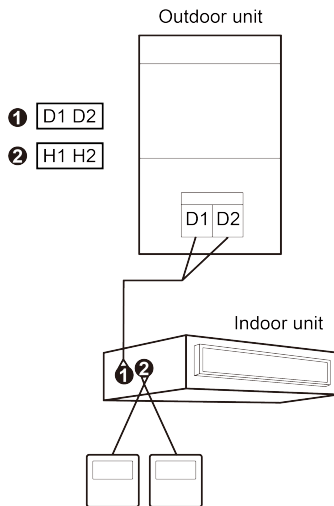

Fig. 5.4 Two wired controllers control one indoor unit
- (1) When one wired controller controls multiple indoor units simultaneously, the wired controller can connect to any one indoor unit, but the connected indoor unit must be the same series indoor unit. The total quantity of indoor unit controlled by wired controller can't exceed 16 sets, and the connected indoor unit must be within the same indoor unit's network. Wire controller must set quantity of group control indoor units. Please refer to 5.2.3 Parameter Setting.
- (2) When two wired controllers control one indoor unit, the addresses of those two wired controllers should be different. Please refer to 5.2.3 Parameter Setting.
- (3) When two wired controllers control multiple indoor units, wired controller can be connected to any one indoor unit, while the connected indoor unit should be the same series indoor unit. The addresses of those two wired controllers should be different. Please refer to 5.2.3 Parameter Setting. The total quantity of indoor unit controlled by wired controller can't be more than 16 sets and all connected indoor units must be within the same indoor unit network. Wire controller must set quantity of group control indoor units. Please refer to 5.2.3 Parameter Setting.
- (4) When one (or two) wired controller(s) control(s) multiple indoor units at the same time, the controlled indoor unit's setting should be the same.
- (5) Wiring of wired controller and indoor unit network must be according to one of the four wiring methods as shown in fig 5.3-5.6. As for the connection method shown in fig 5.4 and 5.6, there should be only one master wired controller (address is 01) and one slave wired controller (address 02). The quantity of wired controller can't exceed two.